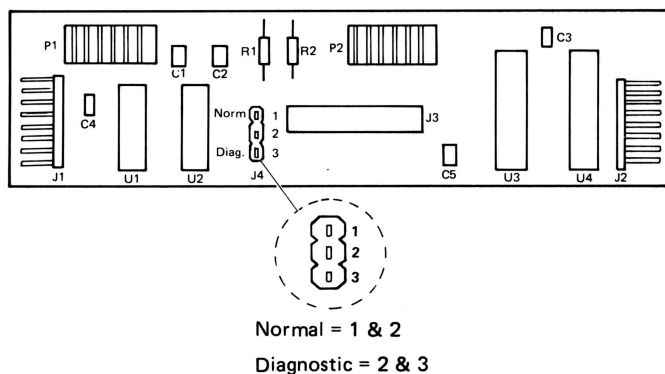

Figure 2
6. Turn the motor switch off. Move the Interface Board Diagnostic Jumper to the diagnostic position, Fig. 2. Turn the motor switch on.
10. If any step does not complete successfully, recheck all connections and perform the checkout procedure again. If the failure still exists, replace the device B/M. If all steps to this point perform successfully, turn the motor switch off and move the interface board diagnostic jumper to the normal position. Fig. 2.